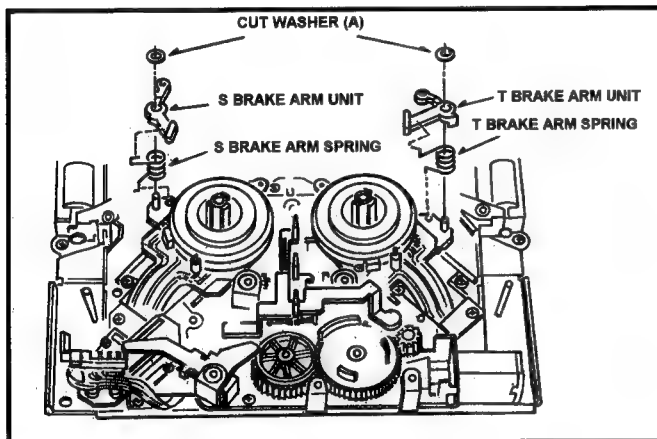

Fig.6-4-1 Removal of S & T Break Arm Unit
4. Remove the cut washers (A) and remove the supply and Take Up Brake Arm Unit as shown in Figure 6-4-1.
1. When install the new Brake Arm Unit first, hang on the Brake Arm Spring as shown in Figure 6-4-1.
3. Main Brake Torque confirmation is required (Refer to item 5-3).
4. Confirm that the Tension value on the Playback mode (Refer to item 5-11).